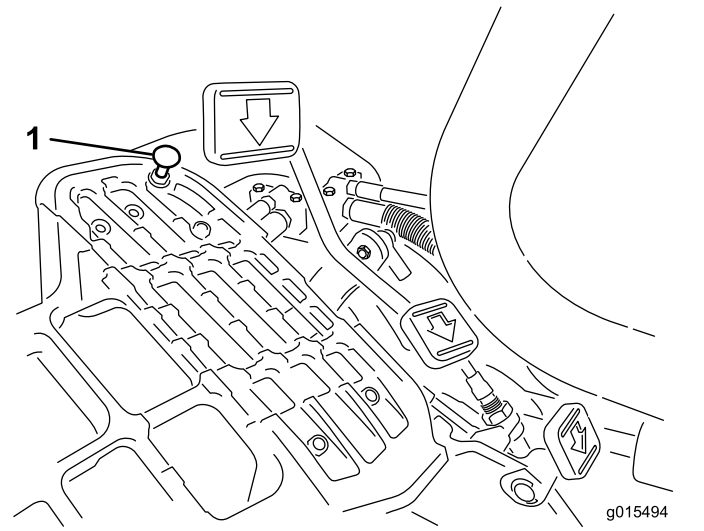

Figure 34
To obtain the maximum-transport speed, put the functional control lever in the TRANSPORT position and press down on the traction pedal. If the pedal contacts the stop (Figure 34) before you feel tension on the cable, perform the following adjustment procedure:
1. Put the functional-control lever in the TRANSPORT position and loosen the locknut securing the pedal stop to the floor plate (Figure 34).